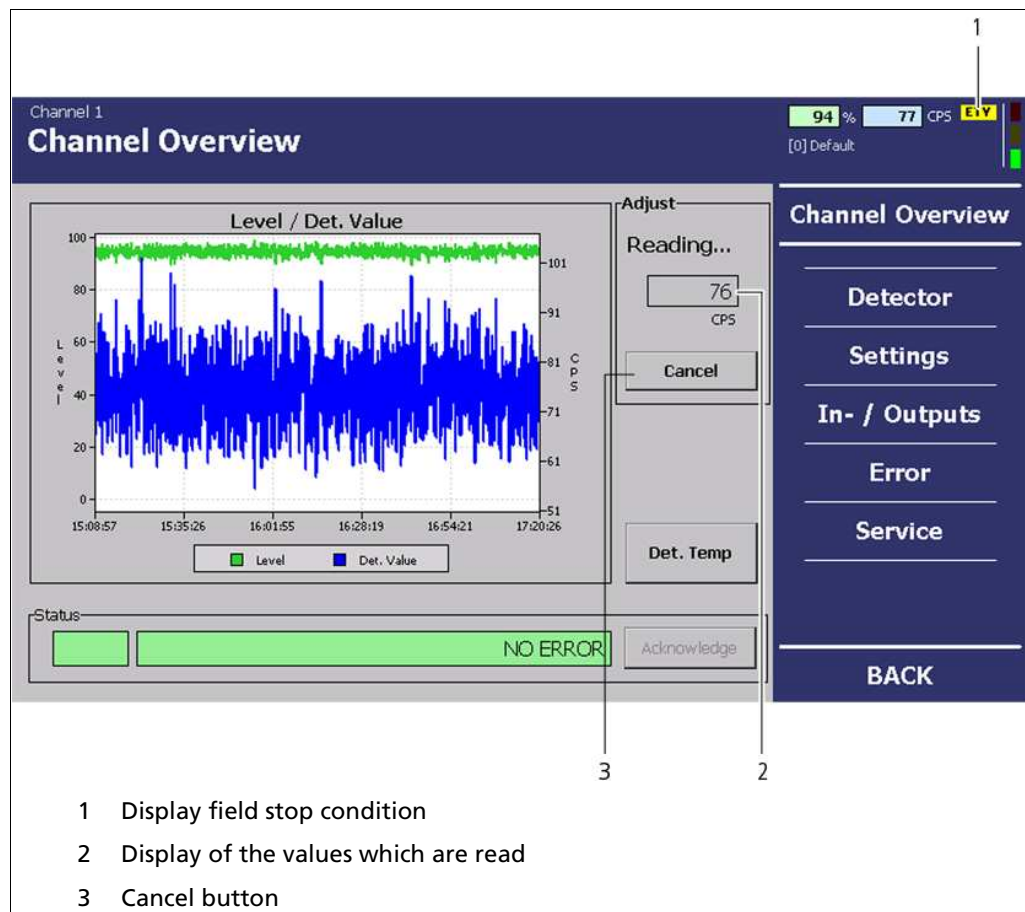

Fig. 53 Menu "Channel Overview", Adjustment - Reading in the values
- ⇒ The current count rate is read in (Fig. 53, Pos. 2). The duration of the full adjustment depends on the settings applied in the menu **Settings | Calibration | Plausibility**. Further information on the settings can be found in chapt. 7.2.1.3 in the "Plausibility" submenu. You can cancel the full adjustment and the reading of values by clicking on the <Cancel> button (Fig. 53 Pos. 3). **Manual cancelling is not recommended.**
The evaluation unit is in the "empty adjustment" mode as long as the abbreviation **"ETY"** is displayed and is in "full adjustment mode" as long as the abbreviation **"FUL"** is displayed (Fig. 53, Pos. 1).